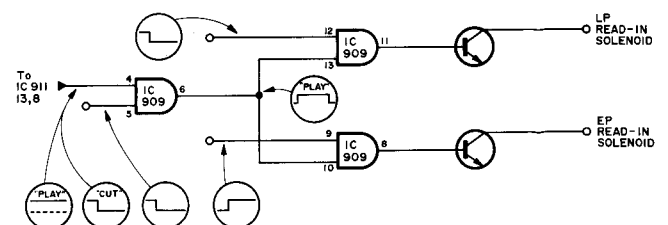

Figure 48-3
6. 6. 8 Read-In and Cut Select Circuit (Refer to Figure 48-3)